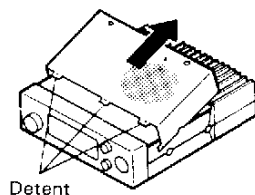

Fig. 1
2. Carefully remove the top cover. (Fig. 1)
1. Remove the 2 screws securing the Top cover. Carefully remove the top cover. (Fig. 1)